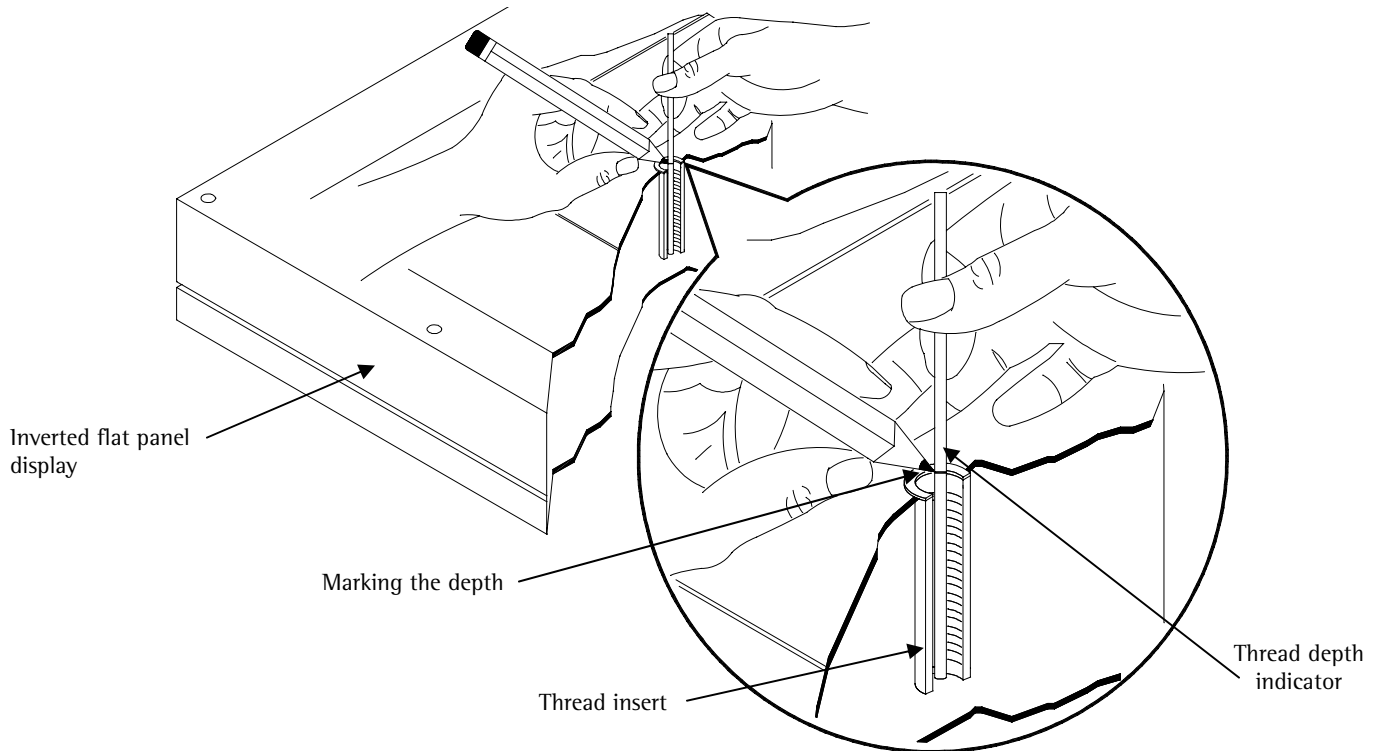

Figure 1
1. Insert the thread depth indicator (supplied) through the thread inserts found on the back of the flat panel to make sure the inserts measure the same full depth and mark it (Figure 1).
**WARNING:** WHEN MOUNTING THE AM3, THE SIDE THAT THE SWINGOUT ARM IS LOCATED ON MUST HAVE A LAG BOLT MOUNTED ON AT LEAST ONE SIDE (SEE FIGURE 1), TOP AND BOTTOM.
**WARNING:** WHEN MOUNTING THE AM3, THE SIDE THAT THE SWINGOUT ARM IS LOCATED ON MUST HAVE A LAG BOLT MOUNTED ON AT LEAST ONE SIDE (SEE FIGURE 1, PAGE 9), TOP AND BOTTOM.